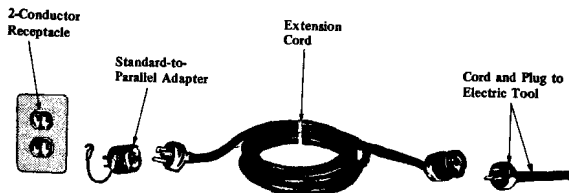

FIGURE 3. Typical Cord Make-up.
**CAUTION:** The extension cord (Figure 3) should not be used with portable electric tools where conductors of a larger size are required.